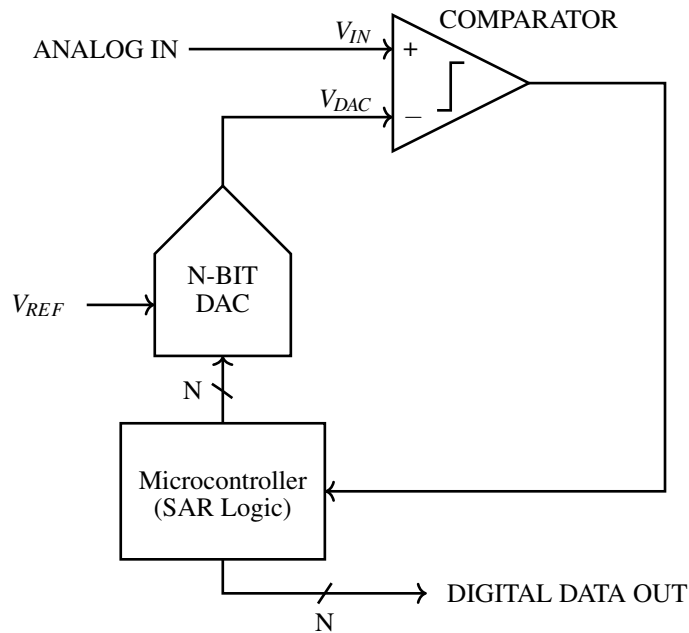

Figure 2: SAR ADC circuit diagram
The SAR ADC algorithm tries various binary “trial codes” by feeding them into a **DAC** to generate voltages and comparing the result with the analog input voltage using a **comparator**. It then uses feedback (**SAR logic**) to adjust the DAC voltage to get as close as possible to the analog voltage. The algorithm starts with the most significant bit (MSB), which is the bit with the largest binary weight (i.e. furthest to the left in a binary number). The circuit diagram of the SAR ADC is shown in Figure 2. The comparator outputs logic high (1) when $V_{IN} \geq V_{DAC}$ and logic low (0) when $V_{IN} < V_{DAC}$. An illustration of the algorithm is shown in Figure 3.
Let's walk through the operation of the N-bit SAR ADC shown in Figure 2 in detail.